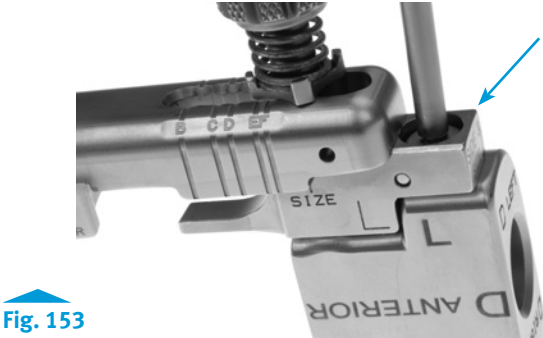

Fig. 153
- Secure the appropriate size Trephine Guide Bushing, corresponding to the size femoral component implanted in the patient, to the Condylar Trephine Guide by tightening the recessed hex screw with the 3.5mm Hex Head Screwdriver (Fig. 153).